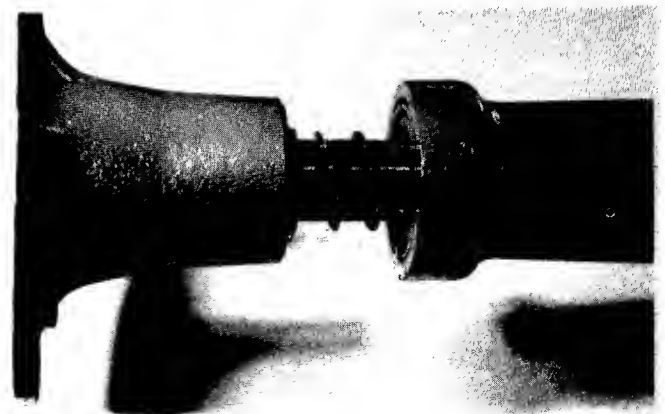

FIG. 4.13-SHIMS ELIMINATE END PLAY
15. Install shim washes and hub, Fig. 4.13. Add or remove shims to eliminate axle end-play.